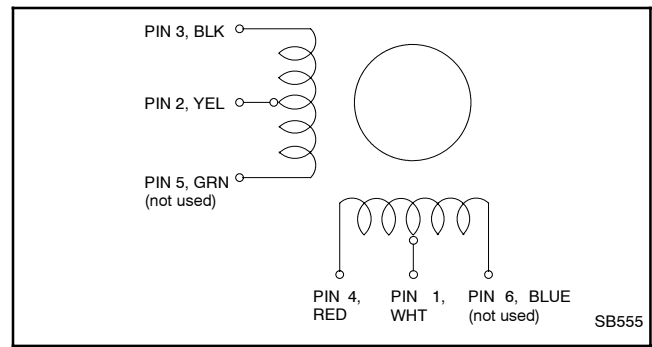

Figure 5-26 Actuator Coil Group
11. Check the stepper motor coil resistance across pins 2 and 3 and across pins 1 and 4. Only two stepper motor leads of each coil group are used (BLK-YEL and RED-WHT). See Figure 5-26. The resistance per half coil is 38.5 ohms. If one of the coils has a significantly higher resistance or is shorted, replace the stepper motor.